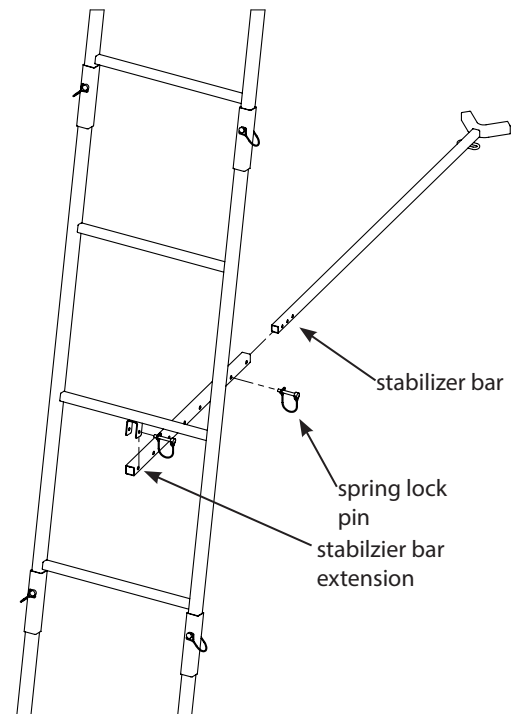

Figure 22
19.a. Attach the stabilizer bar extension tube (1ML23) to the second ladder section mounting bracket using (1) provided spring lock pin. **SEE FIGURE 22.**
b. Slide the stabilizer bar (L17) into the extension tube and attach the two pieces together using (1) provided spring lock pin. Spring lock pin must go through both the extension tube and stabilizer bar at appropriate hole to achieve desired distance from tree. Adjustment in length may be needed when ladder is uprighted later in instructions. **SEE FIGURE 22.**